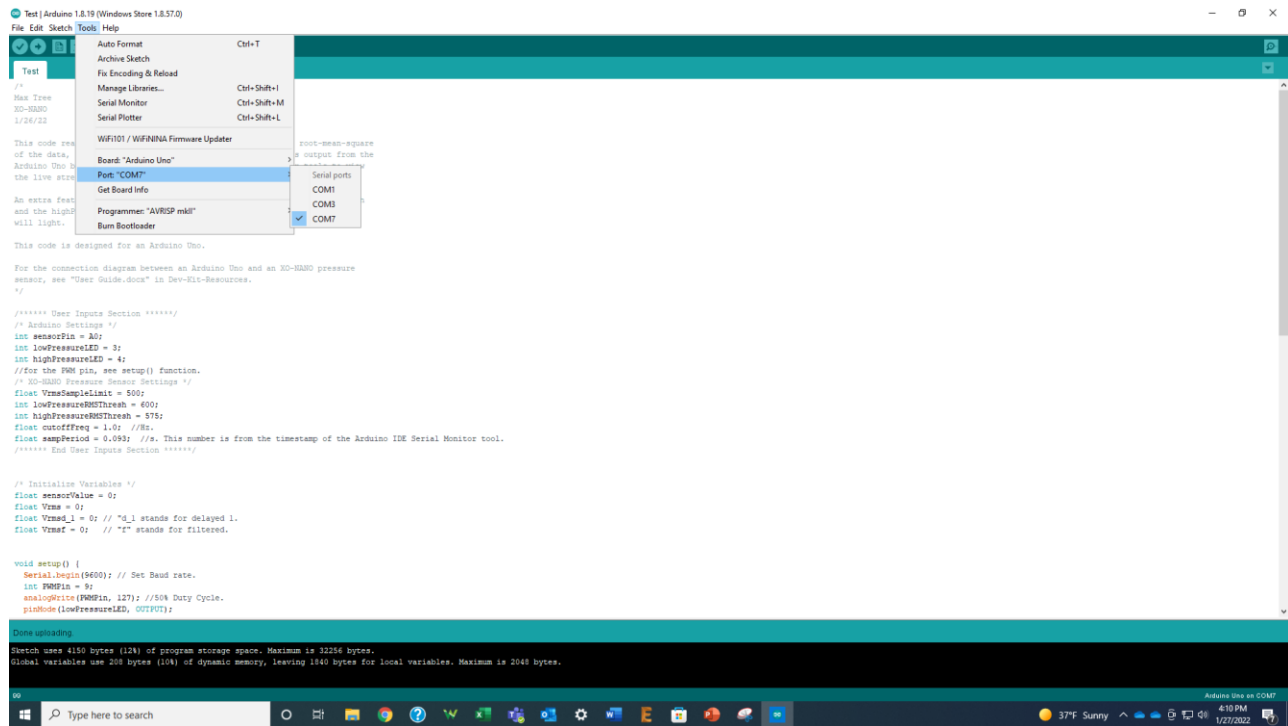

Figure 11 Screenshot showing where to select the port and board settings in the Arduino IDE.
10. Once the program has been uploaded, activate either the Serial Plotter or Serial Monitor tools found in the Tools tab (See Fig. 11). Both the Serial Plotter and Monitor tools will open a separate window where the data will be output. At the bottom of the new window is a Baud Rate selector. Make sure this number matches that of the code (9600) or you will not see the data.